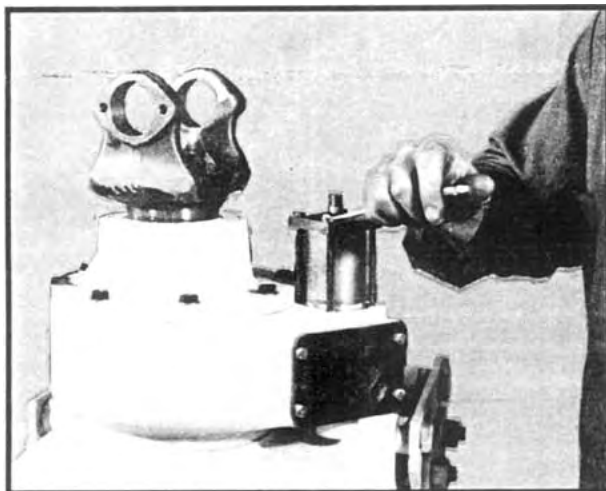

Fig 7
3. Remove the (4) cap screws securing the air shift cylinder cap. See Figure 7. Lift off the cylinder and cap.